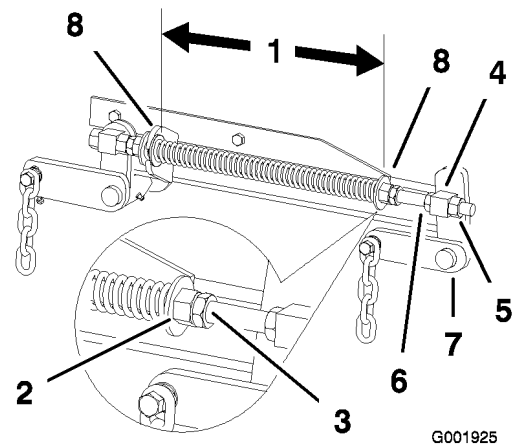

Figure 59
2. Check the distance between the two large washers, it needs to be 11-1/8 inches (28.2 cm) for 52 inch mower decks and 10-1/2 inches (26.7 cm) for 60 inch mower decks (Figure 59).
3. Adjust this distance, by loosening the spring jam nut and turning the nut in front of each spring (Figure 59).
4. Lock the nut into position by tightening the spring jam nut (Figure 59).